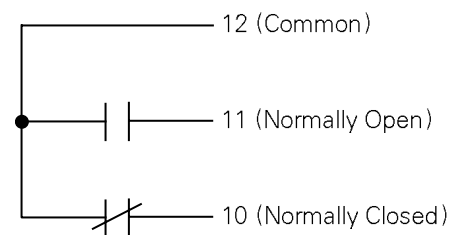

Figure 2. Bell Alarm with Lockout connections on the right terminal block, with contacts shown in the reset state.
In addition, the Bell Alarm with Lockout provides normally open (NO) and normally closed (NC) alarm outputs available at the terminal block on the right side of the breaker, as illustrated in Figure 2. These outputs are returned to their normal state when the Bell Alarm with Lockout reset button is firmly pressed.
6. Connect the control wiring for the Bell Alarm with Lockout at the right terminal block, as illustrated in Figure 2.